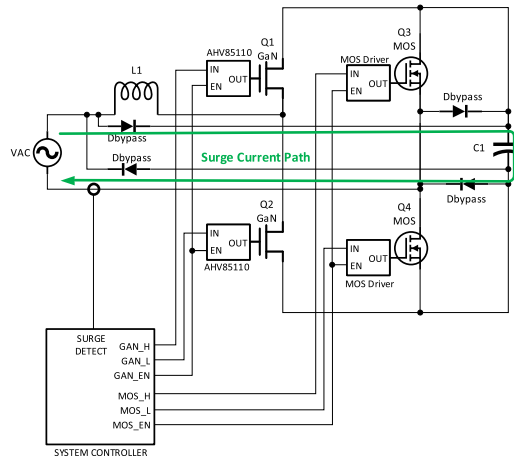

Figure 18: Block diagram of system level surge-detection inhibit signal; used to disable isolated gate drivers using the EN pins
It is recommend to the driver enable (EN) pin to achieve a power-train “safe-state” during such external transient events. An example of the use of this safe-state architecture is shown in Figure 18, for a Totem-Pole PFC power stage. When a surge event is detected, the system controller inhibits the PWM gate drive signal to both GaN and MOS legs, and also pulls down the open-drain Enable (EN) lines to all drivers. This puts the power-train into a safe state and ensures a robust response to the surge event.